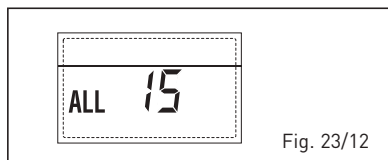

Fig. 23/12
– **ANOMALÍA SONDA EXTERNA “ PARPADEANT” (fig. 23/13)**